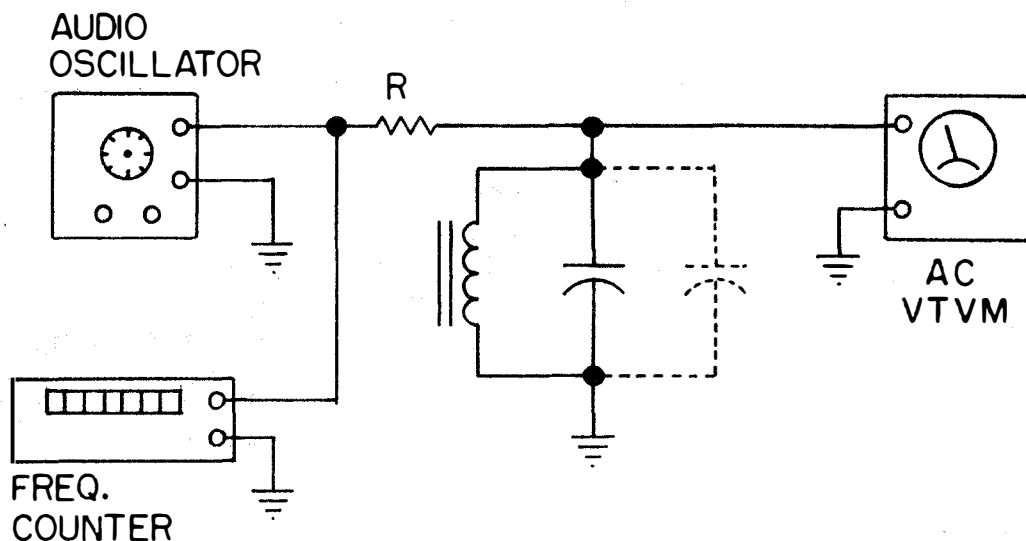

FIGURE 3-3
Figure 3-3 depicts the recommended test set-up for filter tuning. The resistor is necessary to isolate the tuned circuit from the low output impedance of the audio signal generator. Although not critical, a resistor of approximately 100K ohms is recommended for this purpose.
b. Using the first of these toroids, connect as shown in Figure 3-3 with a .068 uf capacitor.
e. Again refer to Figure 3-3 and connect the second toroid with a .056 uf capacitor for narrow shift or a .033 uf capacitor for wide shift.